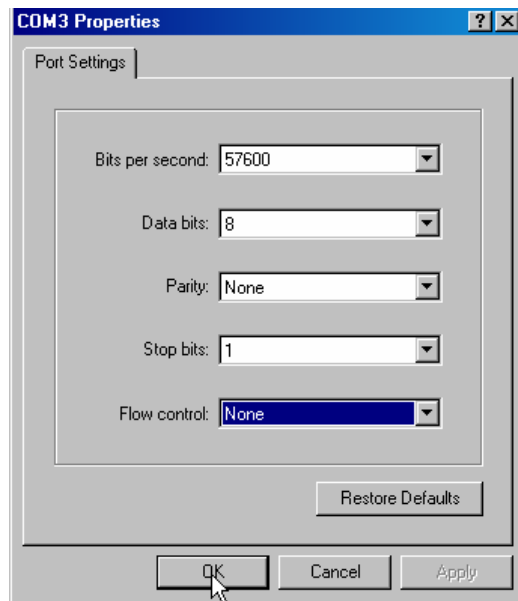

Figure 26: Connect To Dialog Box
3.	Click the OK button to launch the “connect to” dialog box, shown in Figure 26.